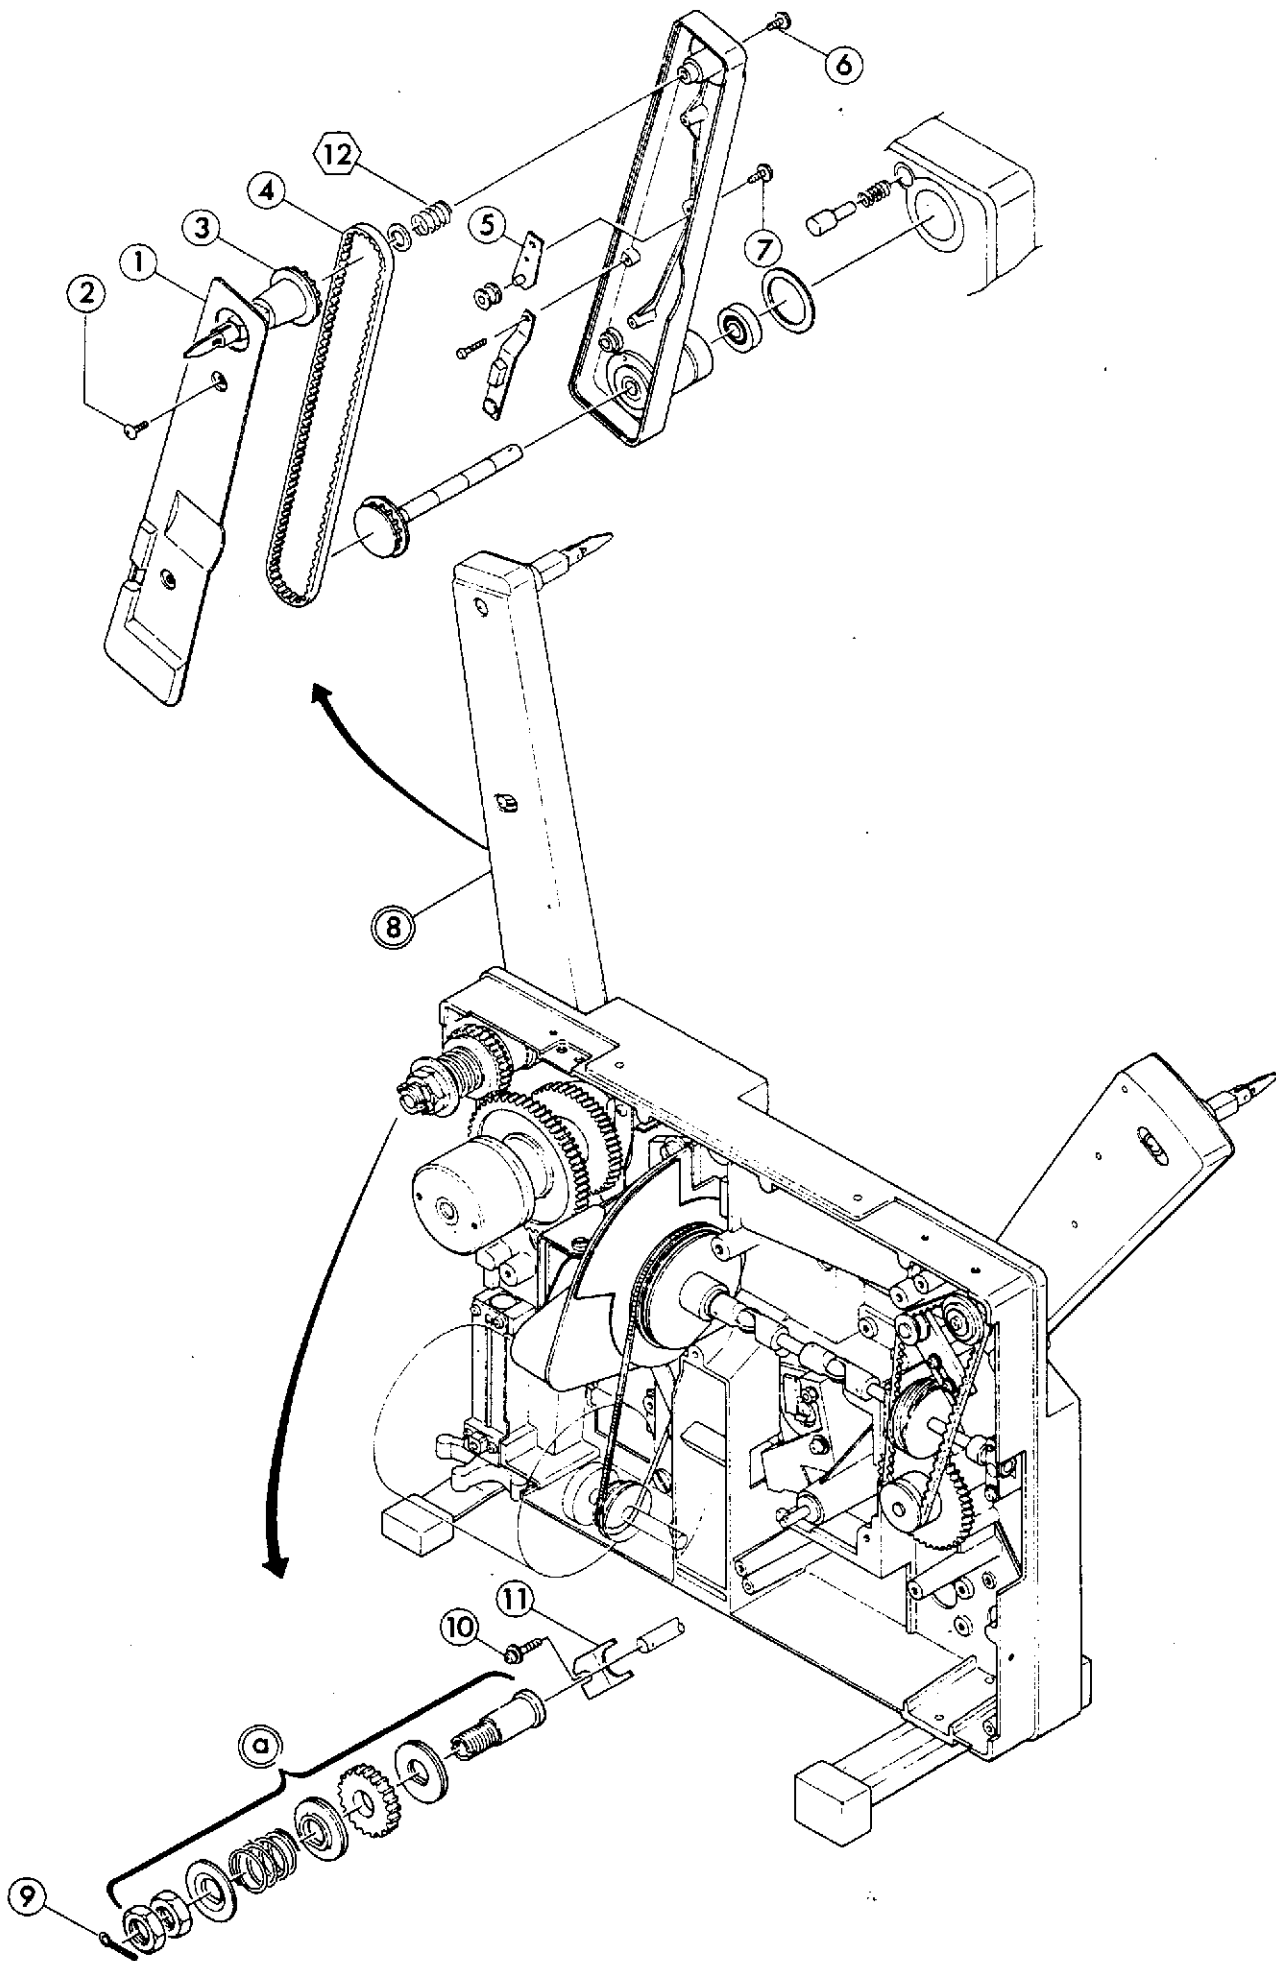

Fig. 3
- \* Remove (a) in Fig. 3 together by detaching Fig. 3-9.